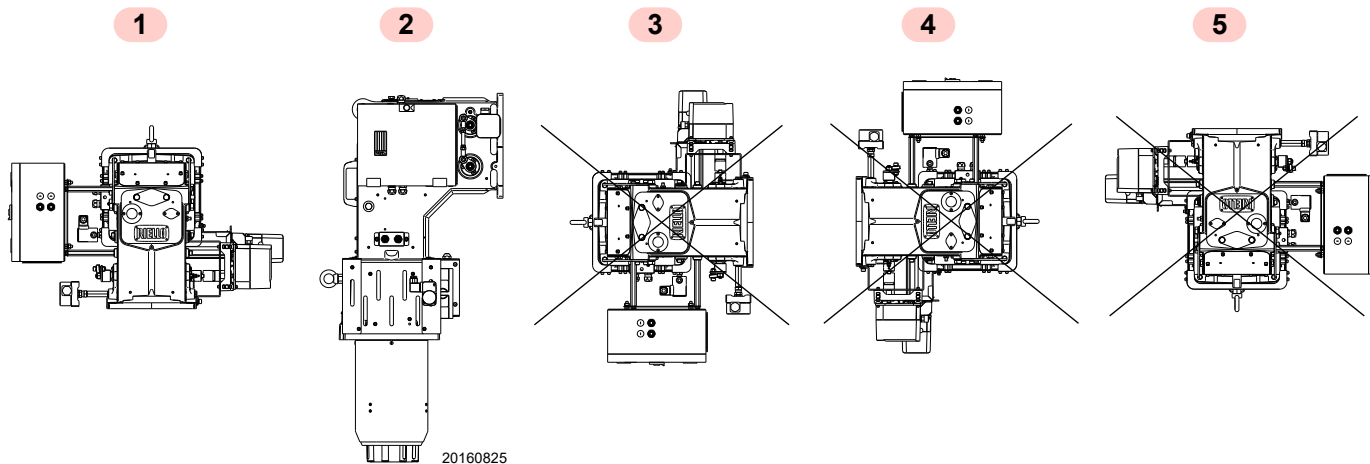

Fig. 11
- The burner is set up to work only in positions 1 and 2 (Fig. 11).